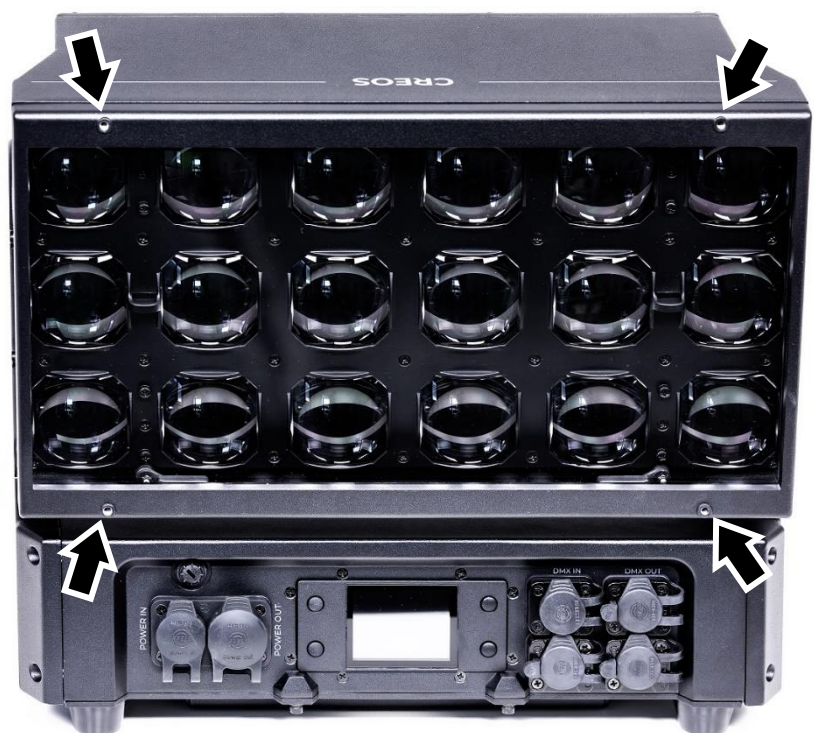

Figure 8. Accessory attachment points
2. See Figure 8. Fix the accessory to the front of the unit using the four M4 thumbwheel bolts supplied.